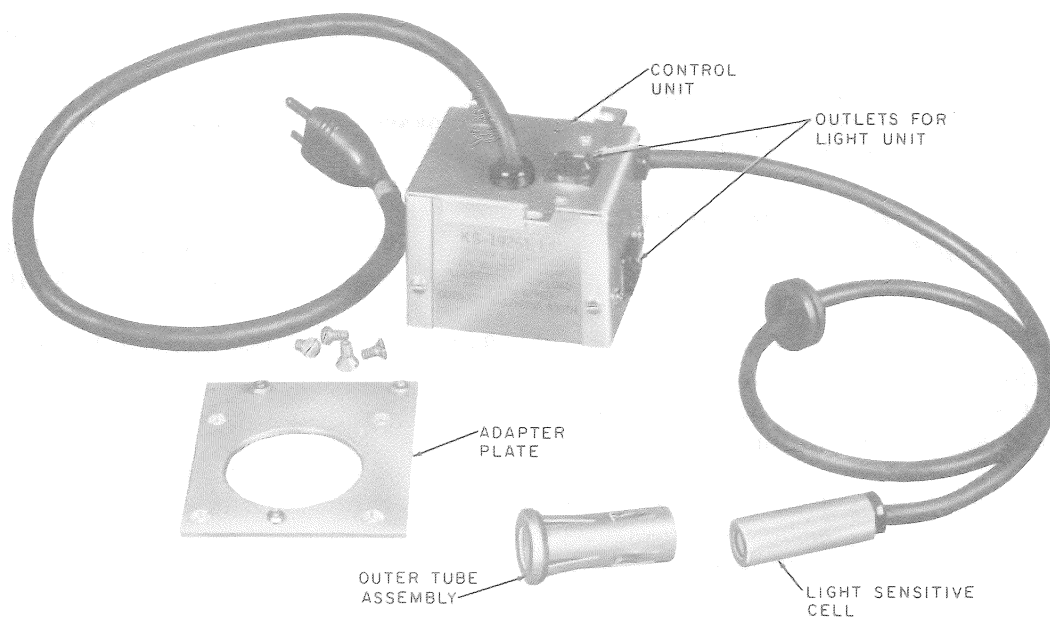

Fig. 2—KS-19261, List 2 Light Control Unit
2.04 The KS-19261, List 2 light control unit (Fig. 2) is used in outdoor booths equipped with light units other than a KS-19207 light and blower unit.